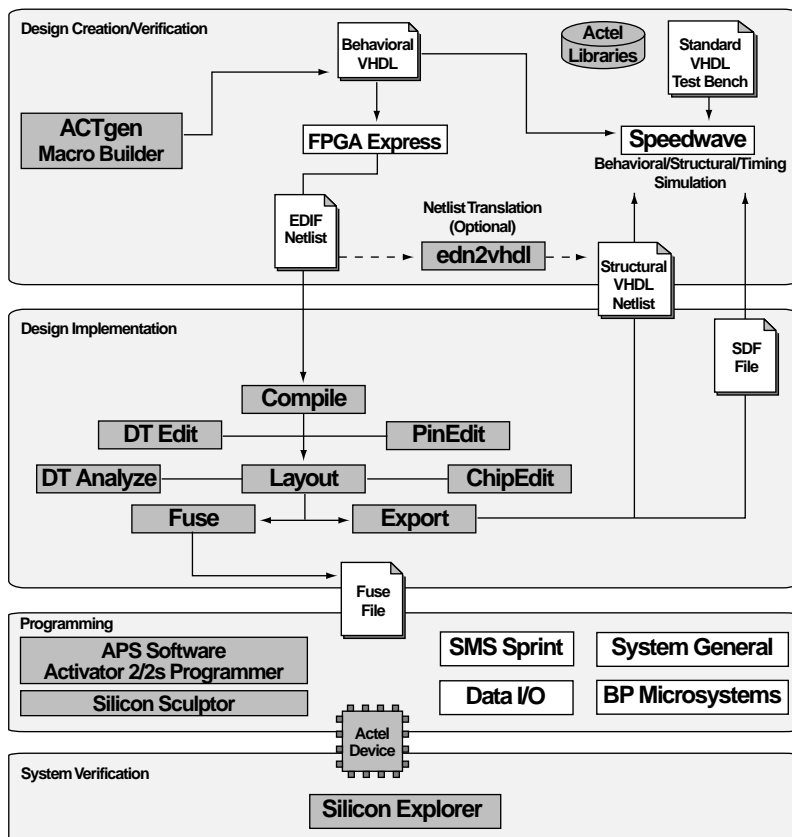

Figure 2-2. Actel-Viewlogic VHDL Synthesis-Based Design Flow
Figure 2-2 shows the VHDL synthesis-based design flow for an Actel device using the Workview Office and Designer Series software¹.
1. Actel-specific utilities/tools are denoted by the grey boxes in Figure 2-2.